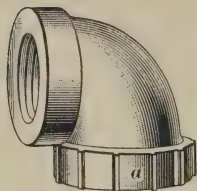

FIG 6
**19.** Fig. 6 shows a **right-and-left-quarter elbow**, where, as a distinguishing mark, the left-hand end has ribs cast on it, as shown at *a*. Some manufacturers, however, indicate the left-hand thread by the letter *L* marked on the fitting.